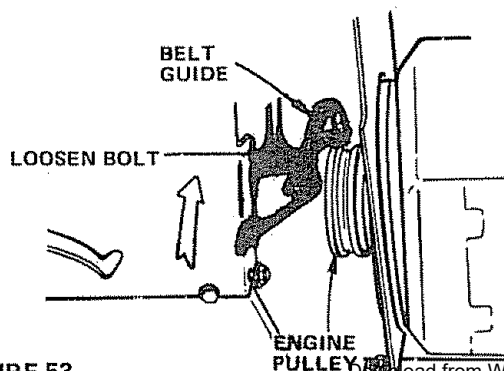

FIGURE 53
- c. Loosen (do not remove) two Engine Pulley Belt Guide Bolts and swivel R.H. side of Belt Guide up. Tighten L.H. Bolt to hold Belt Guide in position (Fig. 53).